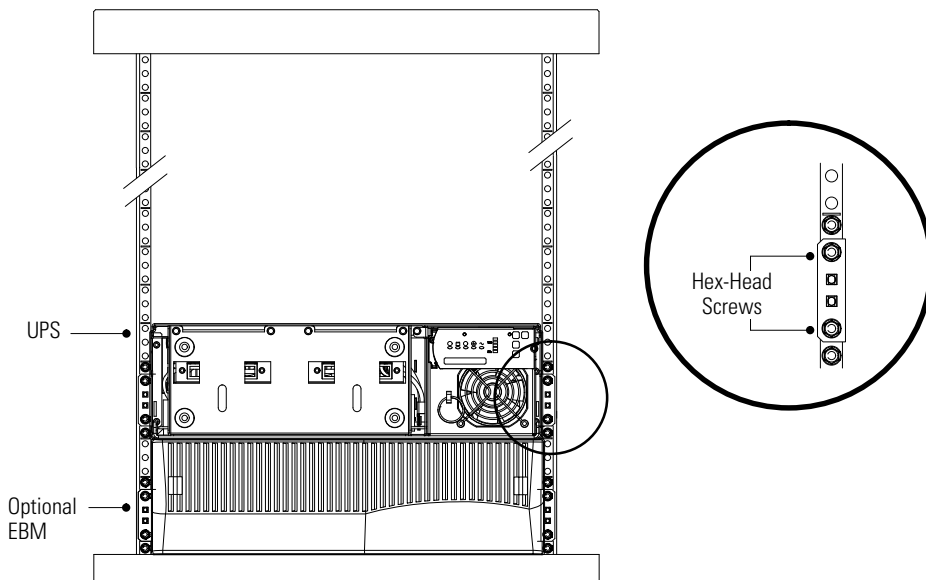

Figure 8. Securing the Mounting Brackets
NOTE *The EBMs must be installed below the UPS as shown in Figure 8.*
11. Secure the front of the cabinet to the rack using two hex-head screws in the top and bottom positions of each mounting bracket (see Figure 8). Repeat for each cabinet.